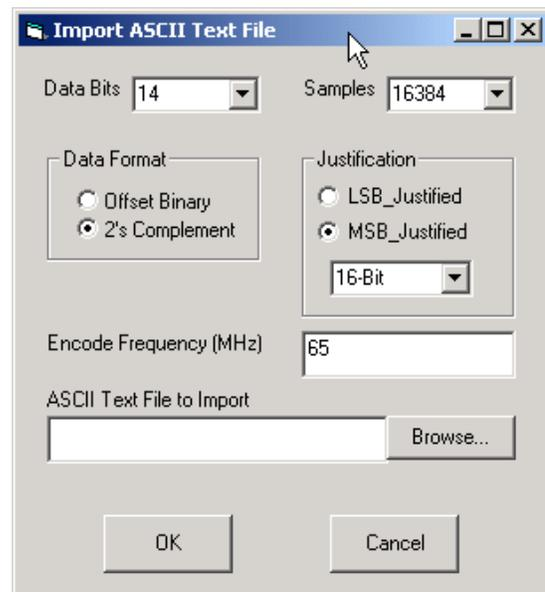

Figure 16. Import ASCII Text File Dialog Box
3. The window in Figure 16 will appear. This window is used to give ADC Analyzer information about how to interpret the text data file.